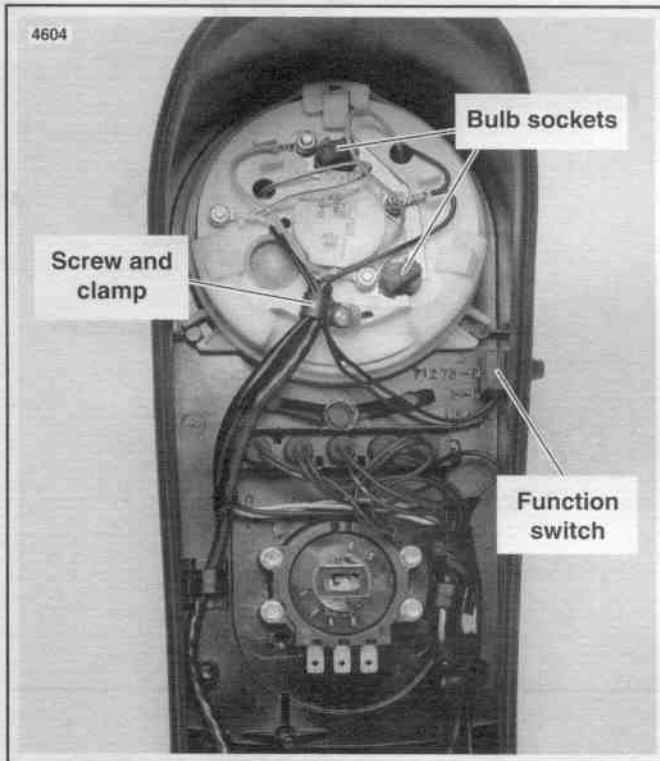

Figure 8-49. Electronic Speedometer
1. See Figure 8-49. To replace speedometer bulbs, rotate bulb sockets (3) approximately 45 degrees counterclockwise and gently pull bulb from socket.